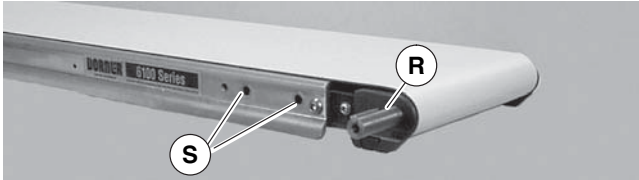

Figure 12
4. Locate drive output shaft (Figure 12, item R) and remove two (2) screws (S).